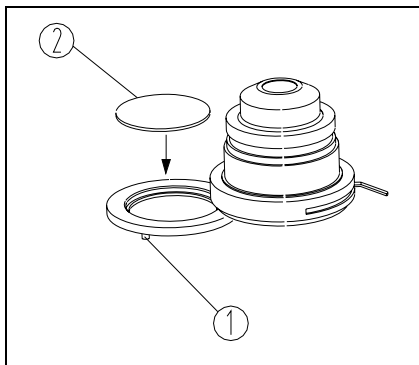

Fig.17
Screw out the color filter frame① at the bottom of the condenser in clockwise direction, press the filter② into its hole, then screw in the frame in counterclockwise direction (See Fig.17).